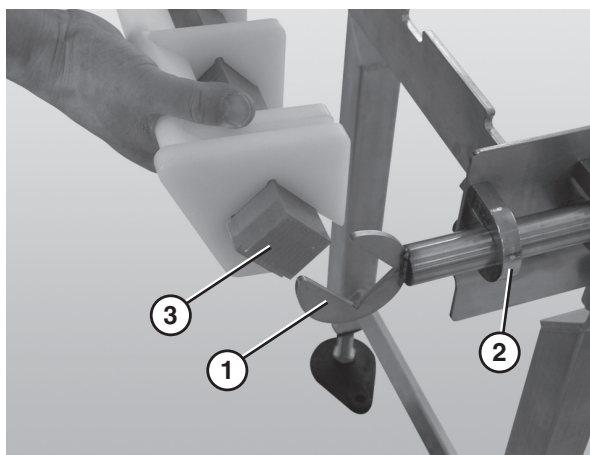

Figure 16
1. Slide the nose bar idler shaft hands (Figure 16, item 1) into the take up blocks (Figure 16, item 2).
2. Attach the nose bar transfer post (Figure 16, item 3) to the nose bar idler shaft hands.